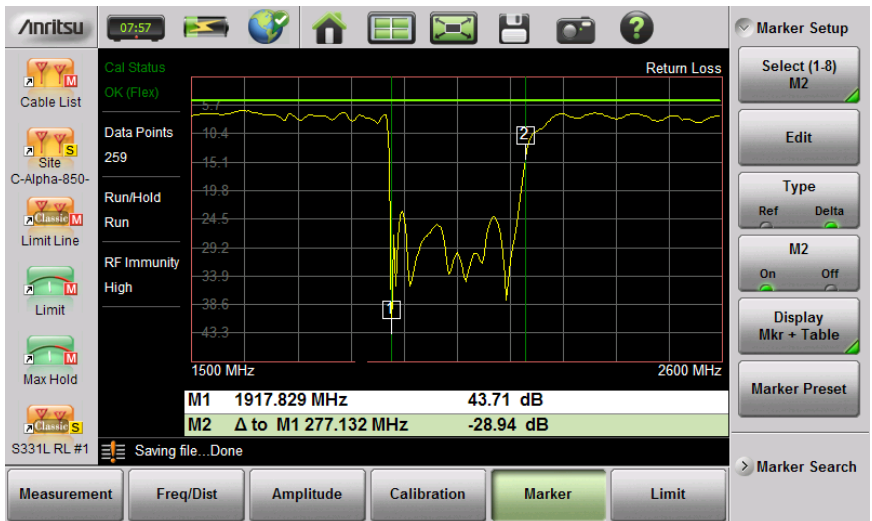

Figure 3-30. Delta Marker 2 and Marker Table
3. Markers 2 through 8 can be set as deltas to a reference marker. Use the **Type** key to set the marker type as **Reference** or **Delta** marker. Figure 3-30 on page 3-39 illustrates using a delta marker to estimate the passband of a filter.